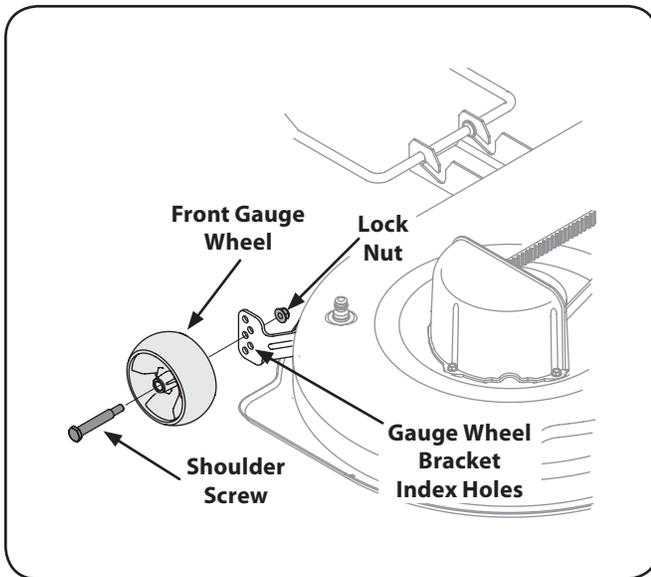

Figure 6-7
3. Remove the hex flange lock nut and shoulder bolt securing one of the front ball wheels to the front index bracket. Reposition the ball wheel to align with the one of five index holes that places the wheel  $\frac{1}{4}$ " to  $\frac{1}{2}$ " above the ground. Secure the ball wheel to the index bracket with the shoulder bolt and flange lock nut. Note the index hole used and secure the other ball wheel in the same position. See Fig. 6-7.